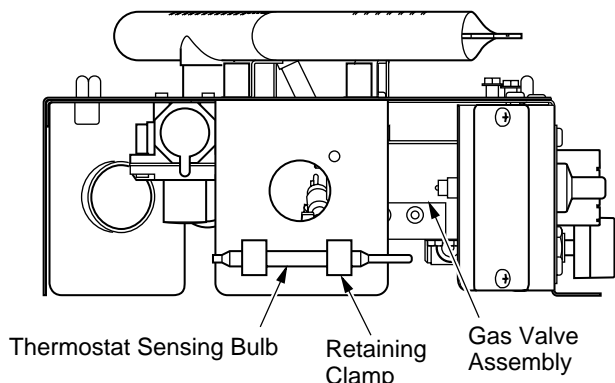

Figure 44 - Location of Gas Valve Assembly and Thermostat Sensing Bulb
1. Locate the gas valve assembly and thermostat sensing bulb (see Figure 44).